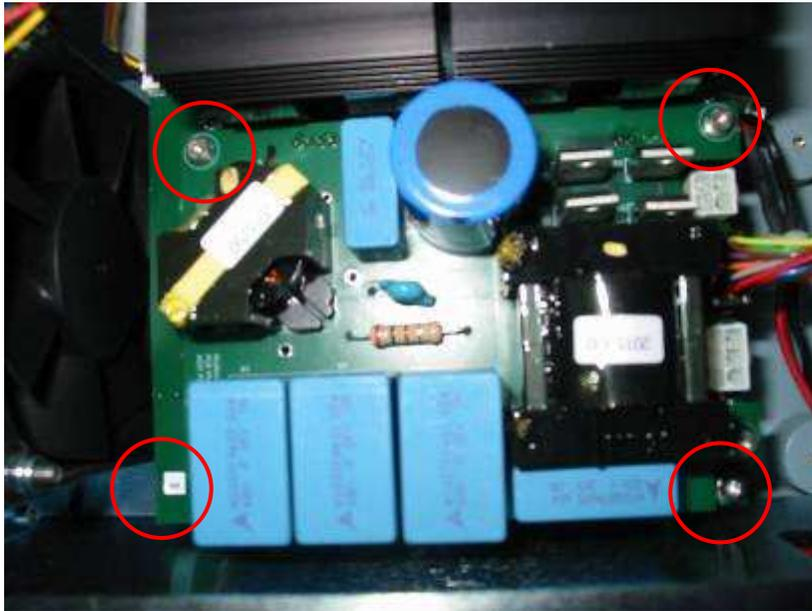

Figure 30: PS Charger – Remaining Connections
11. Remove any additional braid, connector or screw that might interfere with lifting the plate (Figure 30).